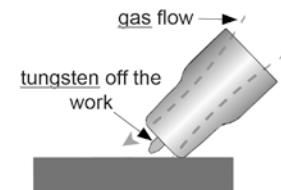

Fig. 19
5. Now rotate the gas cup in the reverse direction to lift the tungsten electrode from the workpiece to create the arc (Fig. 19 and 20).